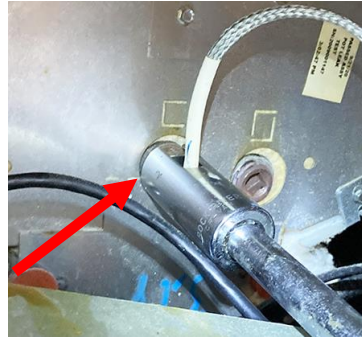

Figure 29
32. Remove the cook probe (denoted by an "C") using a O2 slotted socket or a 7/8" open end wrench (see Figure 29).